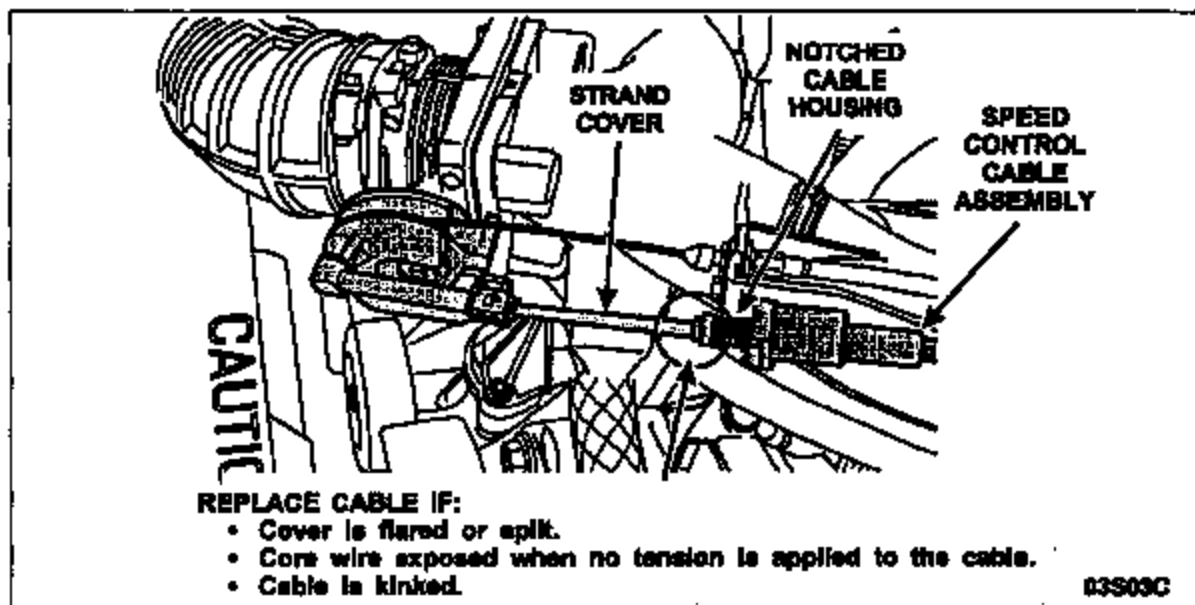

FIGURE 3
3. Visually inspect the cable for any of the following unacceptable conditions (see Figure 3):